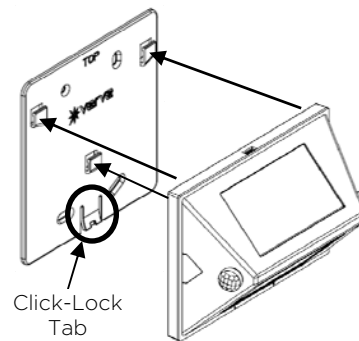

Figure 2
7. After the mounting plate is installed, attach the sensor housing (refer to Figure 2).
1. Use a small screwdriver to depress the click-lock tab on the mounting plate (circled in Figure 2).